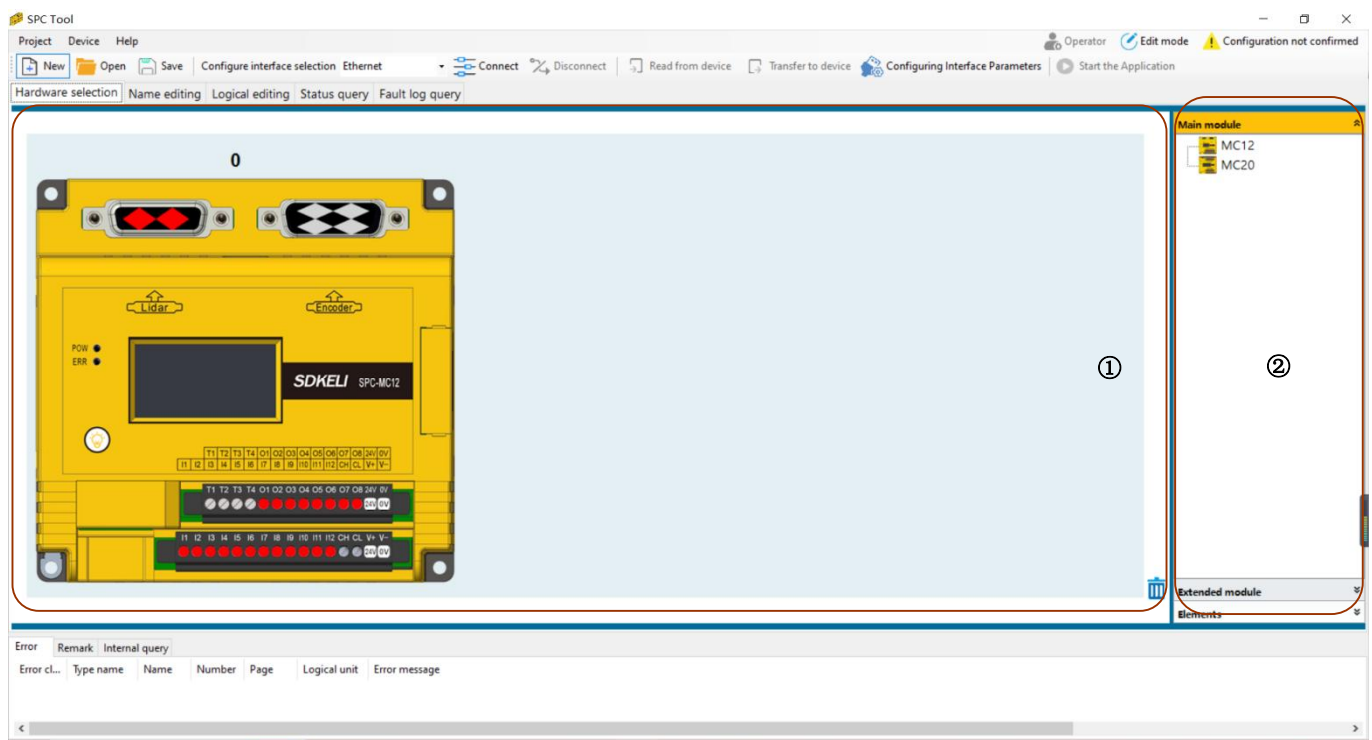

Figure 4.7 Hardware Configuration Interface structure
- **Main control module** Selection panel: All SPC main modules that can be combined into a safety controller SPC are displayed here. Currently it includes the MC12 and MC20 series. Refer to Area ② in Figure 4.7.
- **Expansion module** Selection panel: All SPC expansion modules that can be combined into the safety controller SPC are displayed here. Currently, this includes the EN0000 and IO0842 series. (Refer to Area ② in Figure 4.7.)
- **Element** Selection panel: All devices that can be connected to the inputs and outputs of the safety controller SPC, such as sensors, encoders, etc., are listed here. The device can be parameterized. As shown on Area ② in Figure 4.7.
- **Configuration area**: Here create the entire hardware configuration of the safety controller SPC and display it graphically, as shown on Area ① in Figure 4.7. The information of each module can be viewed by double-clicking the corresponding module. Connected devices can also be view and configure parameters by double-clicking. Configured modules and devices can be dragged to the Trash icon to delete.